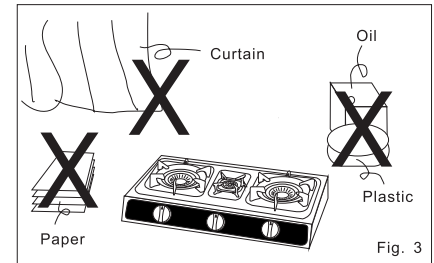

Fig. 3
- Make sure that there are no inflammables near the gas cooker (Fig. 3).